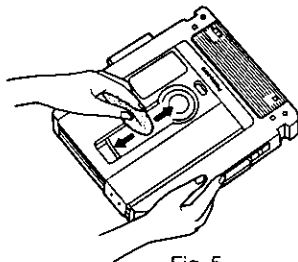

Fig. 5
- (2) Wipe off the dirt on the disc gently in the diametrical direction (from the center to the edges of the disc or vice versa). (Fig. 5)